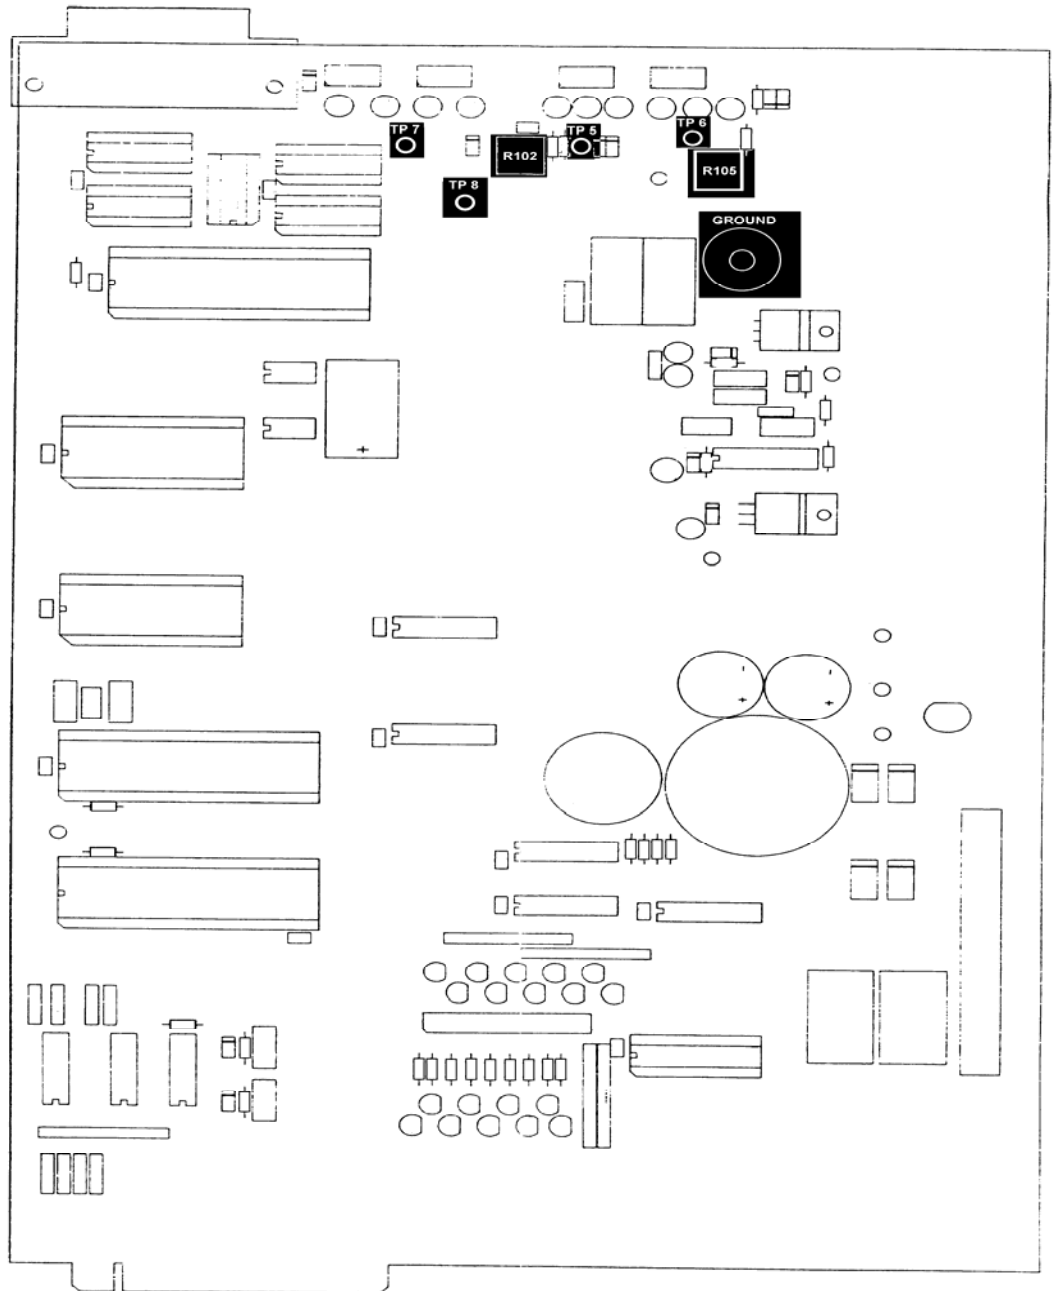

Figure 1. Microprocessor card.
- a. Connect digital multimeter to microprocessor card TP 6 and card ground (fig. 1).
- b. Adjust R105 (fig. 1), located to the left of the rear panel **CH 1 INPUT BNC** connector for digital multimeter indication of $-15\text{ V} \pm 0.05\text{ V}$.
- c. Connect digital multimeter to microprocessor card TP 5 and card ground (fig. 1).
- d. Adjust R102 (fig. 1) for digital multimeter indication of $+15\text{ V} \pm 0.05\text{ V}$.
- e. Connect digital multimeter to microprocessor card TP 7 and TP 8 individually, and card ground (fig. 1).